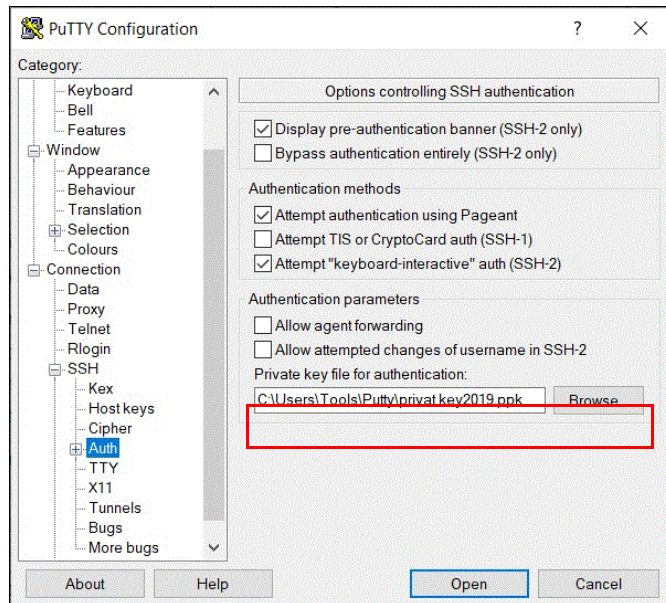

Figure C-11 SSH authentication
- In the “Private key file for authentication” field in Figure C-11, browse to or enter the fully qualified directory path and file name of the SSH client private key file that was created (in this example, C:\Users\Tools\Putty\privatekey2019.ppk is used).